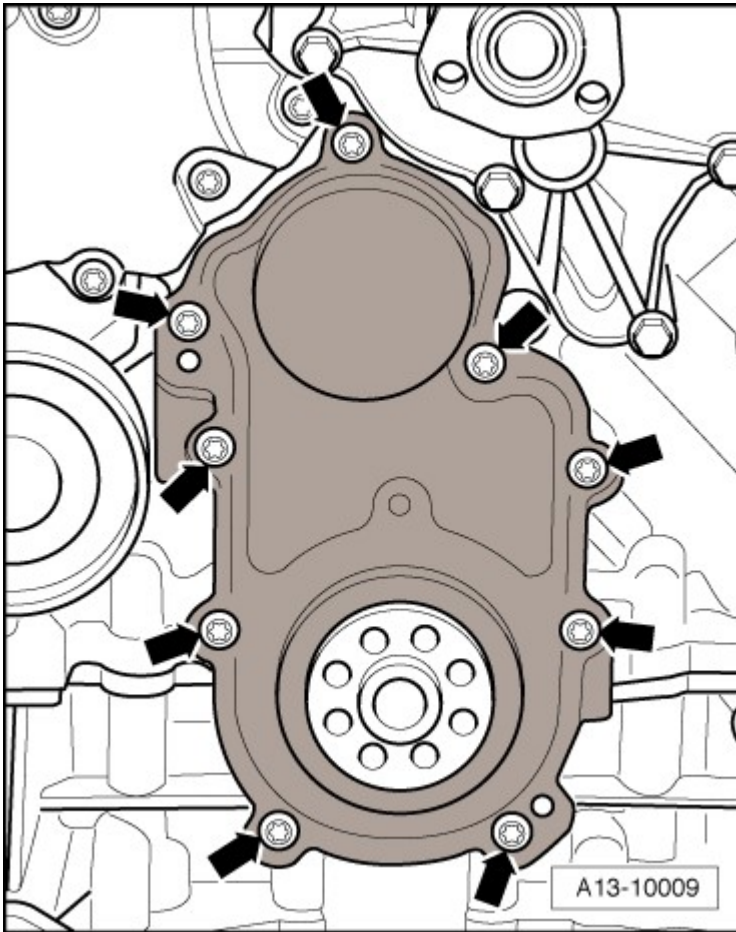

Fig. 2: Identifying Front Sealing Flange Bolts
- Tightening specifications, refer to **Fig. 2**